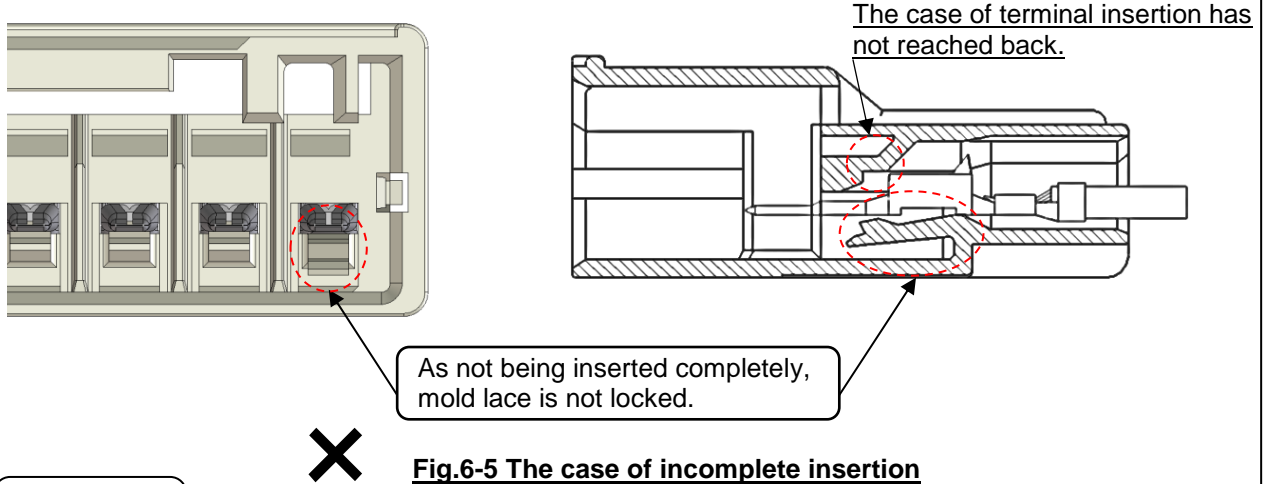

Fig.6-5 The case of incomplete insertion
- ※In the area of incomplete insertion(see Fig.6-5), terminal lance is transformed the most. (Therefore, mold lance of harness with such condition is transformed and do not go back to correct position, resulting in degradation of retention force even though it is re-inserted.) In this case, please be sure to change with a new terminal. When checking harness after processing, please avoid bending wire excessively or with tension. That might cause contact failure because force was added to terminal crimping part or